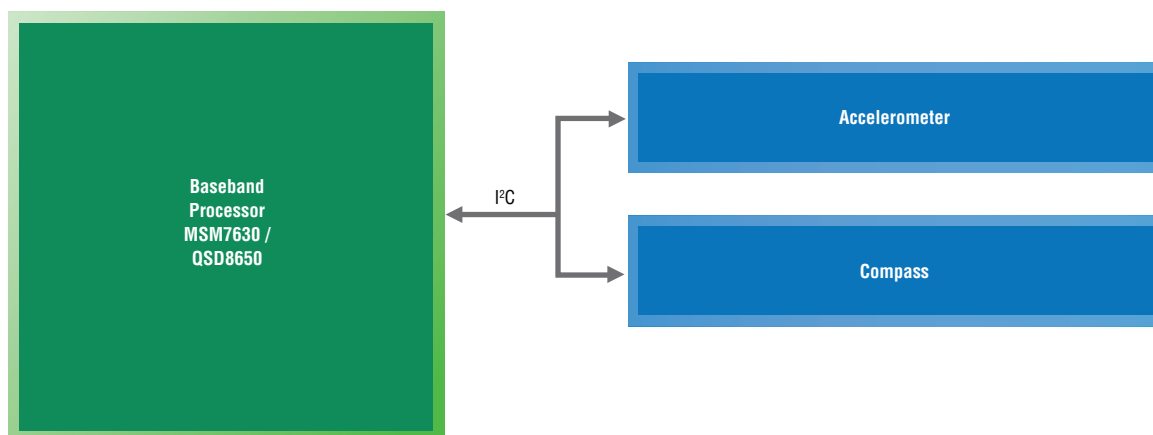

Figure 1
I²C is a common interface used to connect sensors to the Applications Processor (AP) of a smartphone. The issue smartphone designers face when adding additional sensors is that the I²C master controller found inside the AP can become performance-limited which in turn limits the number of sensors one can add (see Figure 1). In addition, the few and precious general purpose I/O (GPIO) for the AP often are not able to meet the performance requirements to emulate the I²C interface.